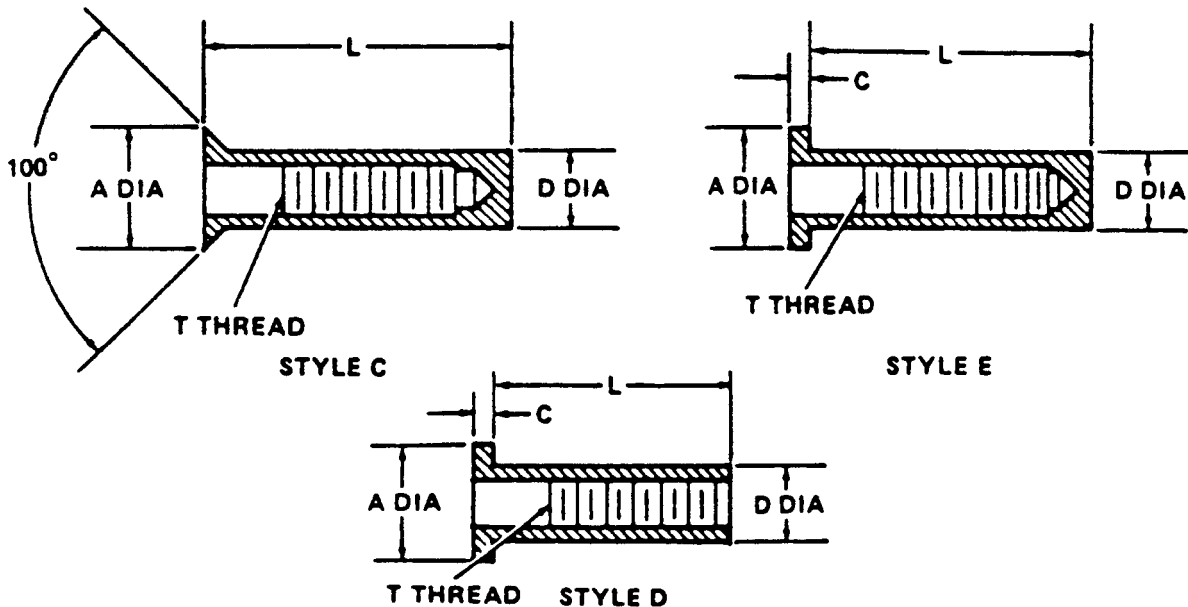

Figure 3-8. Rivnuts (Threaded Inserts).
*b. Rivnut Installation and Removal.* Rivnuts (threaded inserts) are tubular rivets with internal threads and are used throughout the shelter wherever blind threads are required. The types of rivnuts used in the shelter are shown in Figure 3-8 and described in Table 3-3. Flat head rivnuts (style D and E) may be used wherever head thickness will not interfere with installation of equipment. Countersunk head rivnuts (style C) are used for flush installation. Keyed rivnuts are used in locations which are subject to vibration and torque. Closed end rivnuts (styles C and E) must be used for all interior or exterior repairs to keep moisture and dirt from entering panels. Open end rivnuts (style D) maybe used only where rivnut to be replaced is open end and not subject to water penetration.